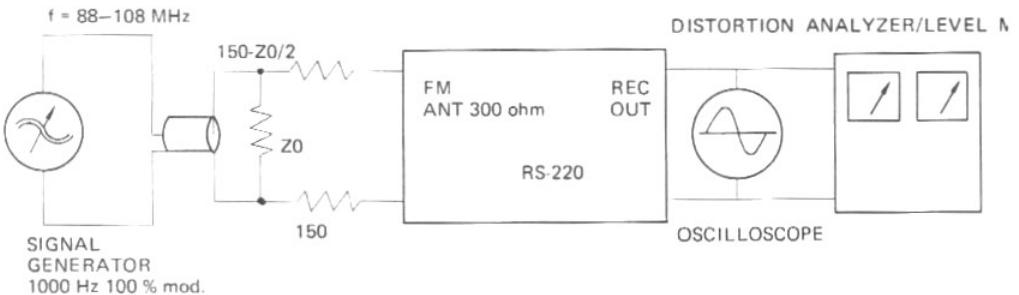

Figure 5. FM FRONT END TEST SETUP
- 2) Connect the test equipment to the RS-220 as shown in Figure 5.
- 1) Connect the equipment to the RS-220 same as Figure 5.
Connect test equipment to the receiver same as Figure 5.